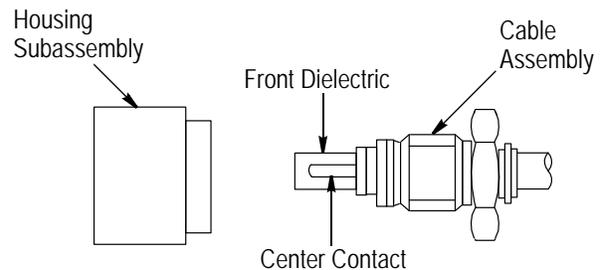

Figure 6
3.4. Secure Inner Sleeve Subassembly to Housing (Figure 6)